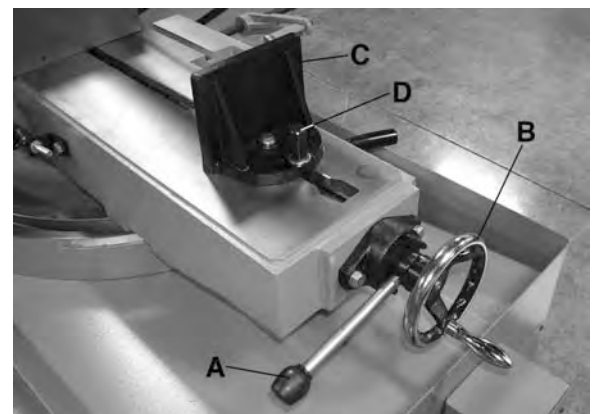

FIGURE 10
- 2) Position the cam lock lever (A) Fig.10 in the upwards position, turn the handwheel (B) a 1/4 turn at a time counterclockwise until you are able to move the vise jaw (D). Once the vise jaw is in position close to the workpiece, turn the handwheel clockwise and lower the cam lock lever (A) to its down position as shown in Fig.10 to firmly hold your workpiece.
- 3) To loosen the workpiece from the vise, hold the workpiece and lift the cam lock lever (A) to its upwards position (completely opened) and remove workpiece.
Then loosen the hex. shaft (D) Fig.10 on the left side vise jaw (C) with a 19mm open ended wrench. Place your workpiece on the table and tighten the vise jaw against it and tighten the hex. shaft to secure angle.